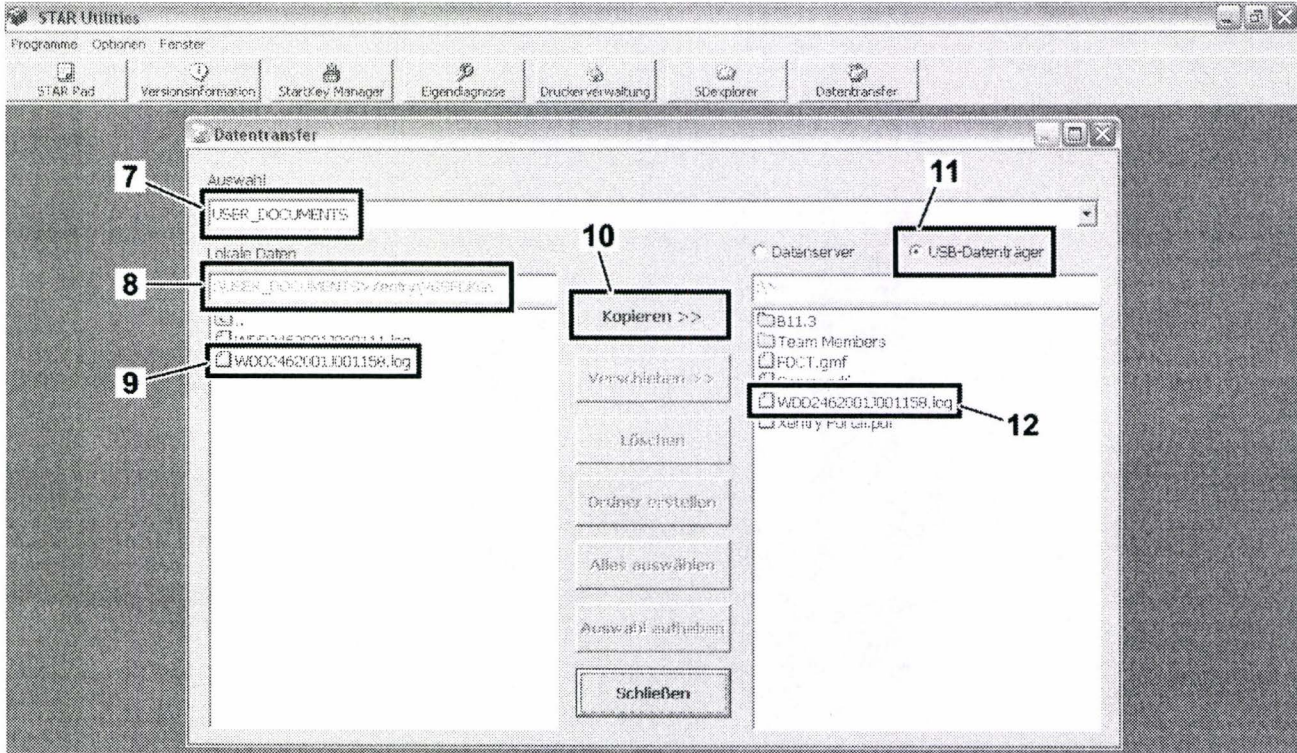

Figure 3.
9. The EEPROM data with VIN is in "USER_DOCUMENTS\Xentry\VGSFDKGI" (Figure 3) (8).
10. To transfer the data to storage medium, select "USB data medium" (Figure 3) (11) as the final memory selection.
11. Transfer the data to a USB stick via "Copy" (Figure 3) (10).